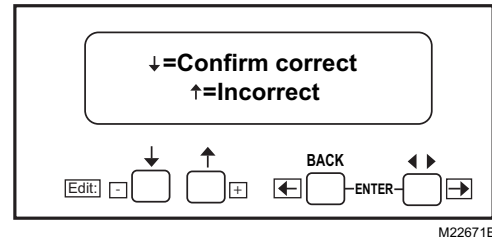

Fig. 32. Confirmation Correct screen.
- Press the down arrow to confirm the correct postpurge time. "Getting Data" will be displayed until the screen in Fig. 32 appears.